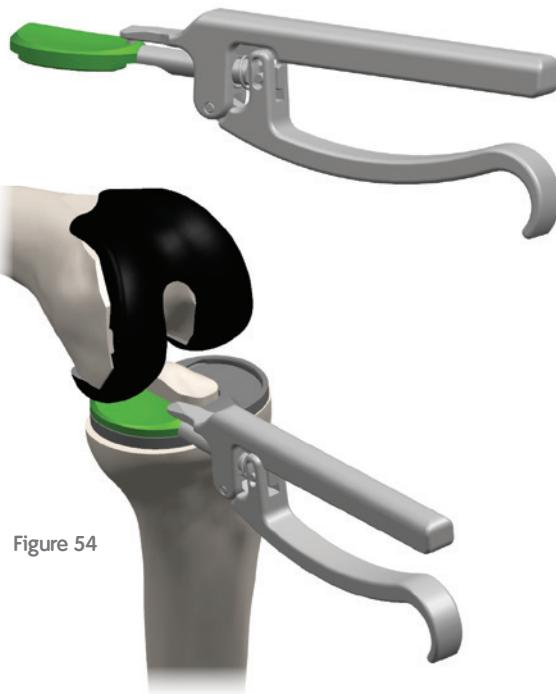

Figure 54
- 1 Load the medial trial insert into the XR Trial Insert Handle (Figure 54).